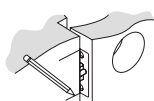

Figure 4a
- Mark center hole on edge of jamb even with the center of the Latch Bolt on door edge. (Figure 4a).
- Position the Interior Assembly over the tailpiece and push the Interior Assembly against the door (Figure 4a).